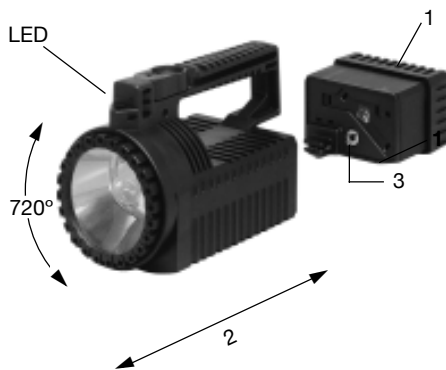

fig. 2
2. Unscrew the hexagon socket head screw SW3 on the front of the handle (fig. 2).
3. Then remove the bezel ring by turning it left (fig. 2).
2. Unscrew the hexagon socket head screw SW3 on the back of the battery insert (fig. 2 item 1) and remove the battery set.